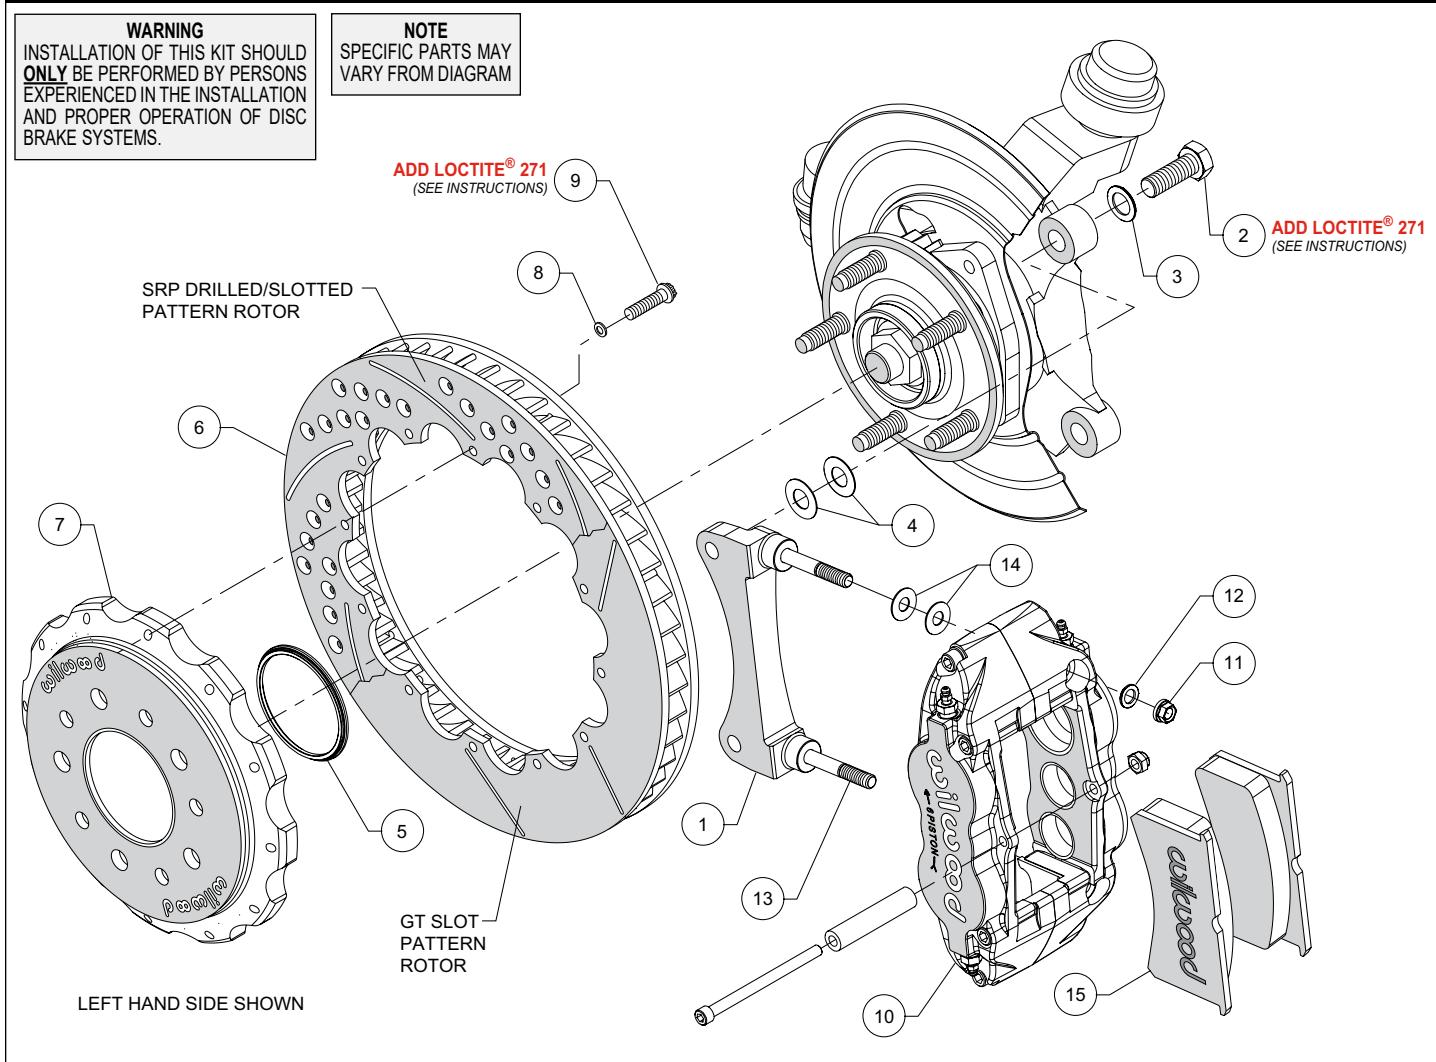
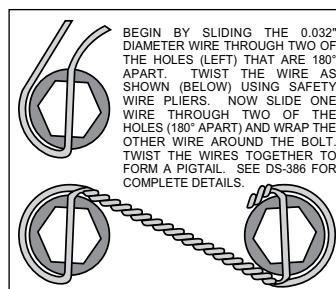

Figure 1. Typical Installation Configuration
Figure 3. Safety Wire Diagram
**Assembly Instructions** (numbers in parenthesis refer to the parts list and Figure 1 on the preceding pages):
- The caliper mount bracket (1) should initially be installed with clean, dry threads on the mounting bolts. Orient the bracket as shown in Figure 1 and Photo 1 and install using mount bolts (2) and washers (3). Initially place two .029" thick shims (4) on each bolt between the bracket and upright, Figure 1. Temporarily tighten the mounting bolts. **NOTE:** The bracket must fit squarely against the mount bosses on the upright. Inspect for interference from casting irregularities, machining ridges, burrs, etc. Later, after the caliper alignment has been checked, the mount bolts will be secured using red *Loctite®* 271.
- Orient the rotor (6) and the hat (7) as shown in Figure 1 and Photo 2. Attach rotor to hat using bolts (9) and washers (8). Apply red *Loctite®* 271 to the bolt threads and torque to 155 **in-lb** using a criss-cross pattern. For an added measure of security, the bolts may be safety wired using standard 0.032 inch diameter stainless steel safety wire as shown in Figure 3. Please refer to Wilwood's data sheet DS-386 (available at [www.wilwood.com/Pdf/DataSheets/ds386.pdf](http://www.wilwood.com/Pdf/DataSheets/ds386.pdf)) for complete safety wire installation instructions.
**NOTE:** This kit contains distinct right and left hand calipers that must be mounted in a specific direction, as described below. Initially place two .035" thick shims (14) on each stud (13) as shown in Figure 1 and Photo 7. Mount the caliper (10) onto the bracket (1) using lock nuts (11) and washers (12), Figure 1. Ensure that the caliper is mounted so the largest pistons are at the rotor exit end of the caliper, in relation to the direction of rotor rotation. Temporarily tighten the lock nuts and view the rotor through the top opening of the caliper. The rotor should be centered in the caliper, Photo 8. If not, adjust by adding or subtracting shims (4) between the bracket and the upright. Always use the same amount of shims on each of the two mounting bolts. Once the caliper alignment is correct, remove the bracket mounting bolts one at a time, apply red *Loctite®* 271 to the threads, and torque to 75 ft-lb.